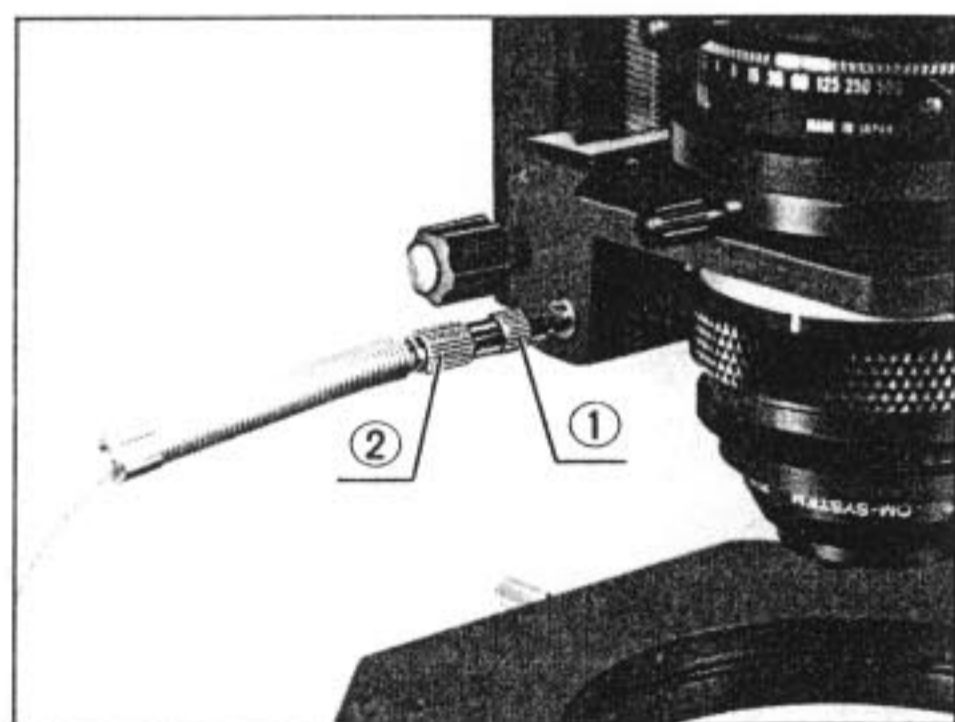

Fig. 12
- 3) Loosen the lock nut ① and you can rotate the needle adjustment sleeve ② either direction. Charge the camera shutter, and press the cable release plunger while observing the diaphragm blades inside the bellows. You will probably see the diaphragm blades move through the full path before the shutter is released; then, tighten the lock nut ① and clamp the adjustment sleeve ② again. (Fig. 12)